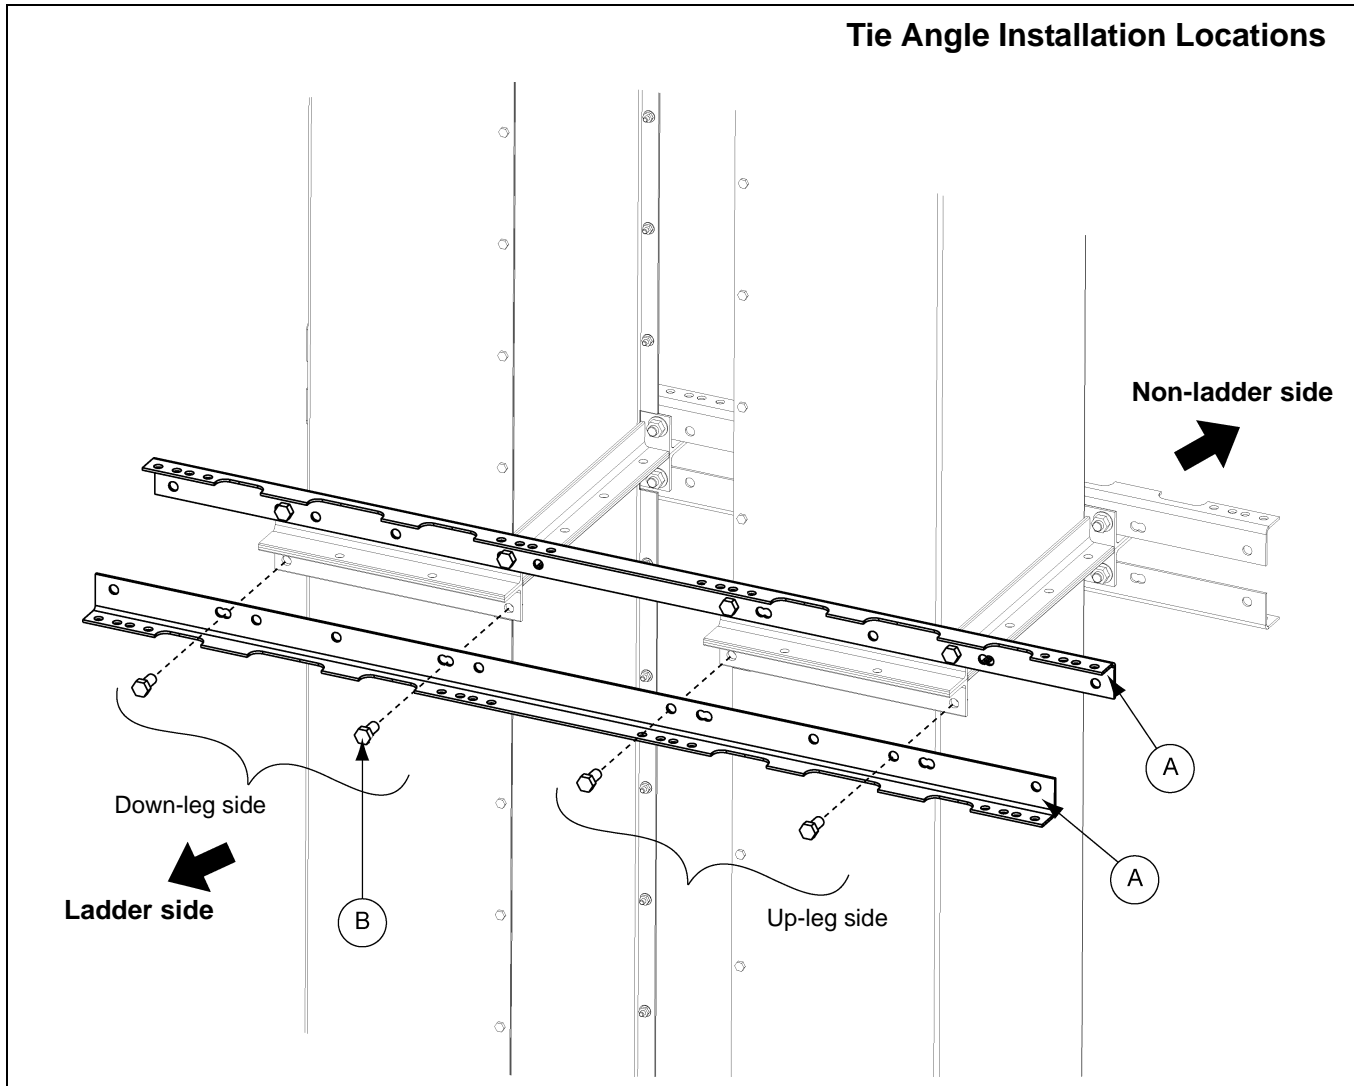

Figure 6I Tie Angle Installation Locations
1. On the LADDER SIDE, use 1/2" x 1" bolts. *See Figures 6I-6K on Pages 25-27* for the correct location of bolts for each elevator size.
Tie angle must be installed at every trunking seam. **NOTE:** *The bottom tie angle will be replaced with a rest platform tie angle (GECT1640FCRPX2) where a rest platform is to be installed. (See Figure 6I.)*